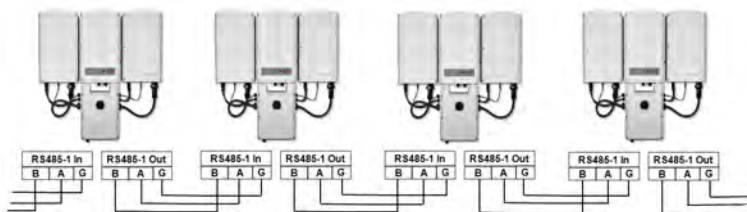

Figure 40: Connecting the inverters on a bus
- Insert the wire ends into the **G**, **A** and **B** pins shown above. Use one terminal block for the previous inverter in the bus and the other terminal block for the next inverter in the bus, as shown in *Figure 40*.